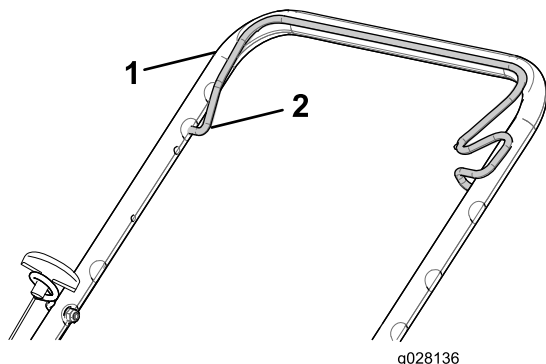

Figure 14
2. Hold the blade-control bar against the upper handle (Figure 14).